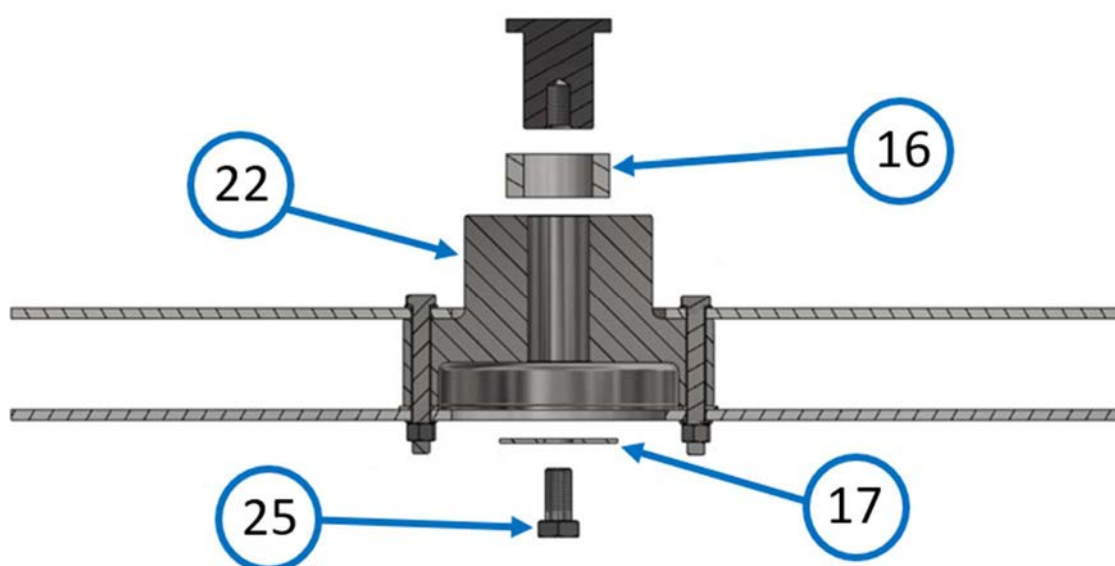
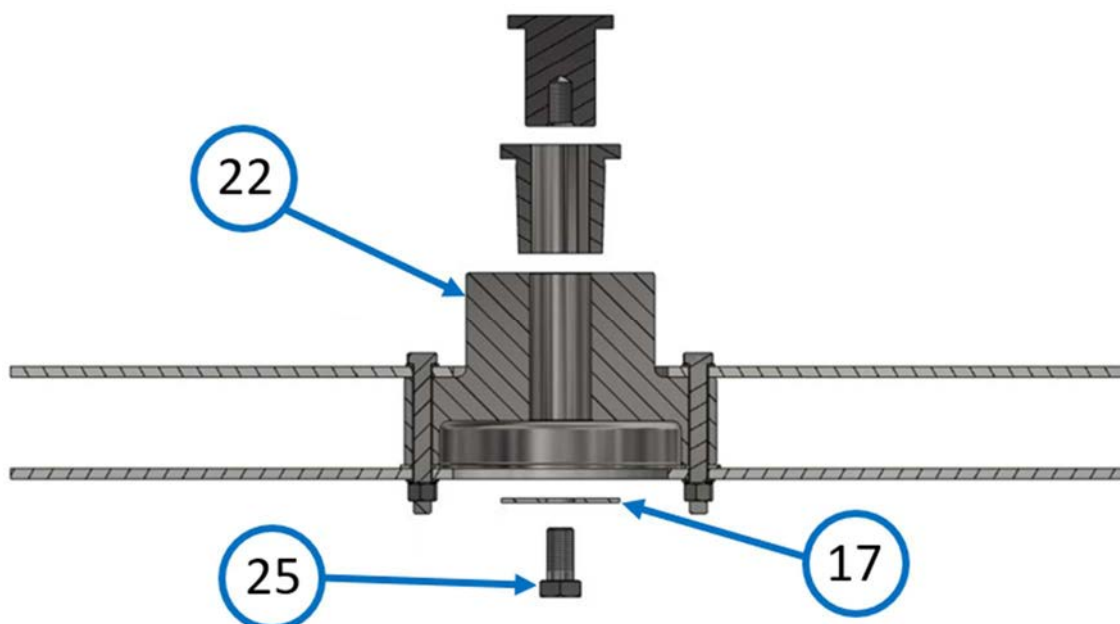

Figure 2.15: installation of hub with internal hub boss and cylindrical bore
Figure 2.16: installation of hub with internal hub boss and bushing
COFIMCO can supply two different types of hub with internal hub boss: with cylindrical bore (see figure 2.15) or with cylindrical bore for bush installation (see figure 2.16).
- 1) **Hub with internal hub boss with cylindrical bore:** anchored directly to the shaft that transmits the motion; for the procedure please refer to figure 2.15.
Put the washer [17] on the flange and tighten the bolt [25] to the shaft, as shown in figure 2.15.
- 2) **Hub with internal hub boss and bushing:** to fasten it refers to figure 2.16.